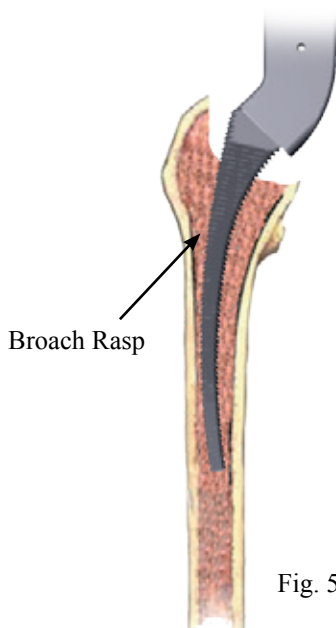

Fig. 5
The **Broach Rasp** can be used to remove bone laterally in the canal, smooth any endosteal irregularities, and further prevent varus positioning of broaches (Figure 5). Progressive broaching with the appropriate broach, Standard or RDP, is followed until the preoperative sized broach is seated, or an appropriate sized broach is seated and has filled the proximal femur in the mediolateral (ML) plane.